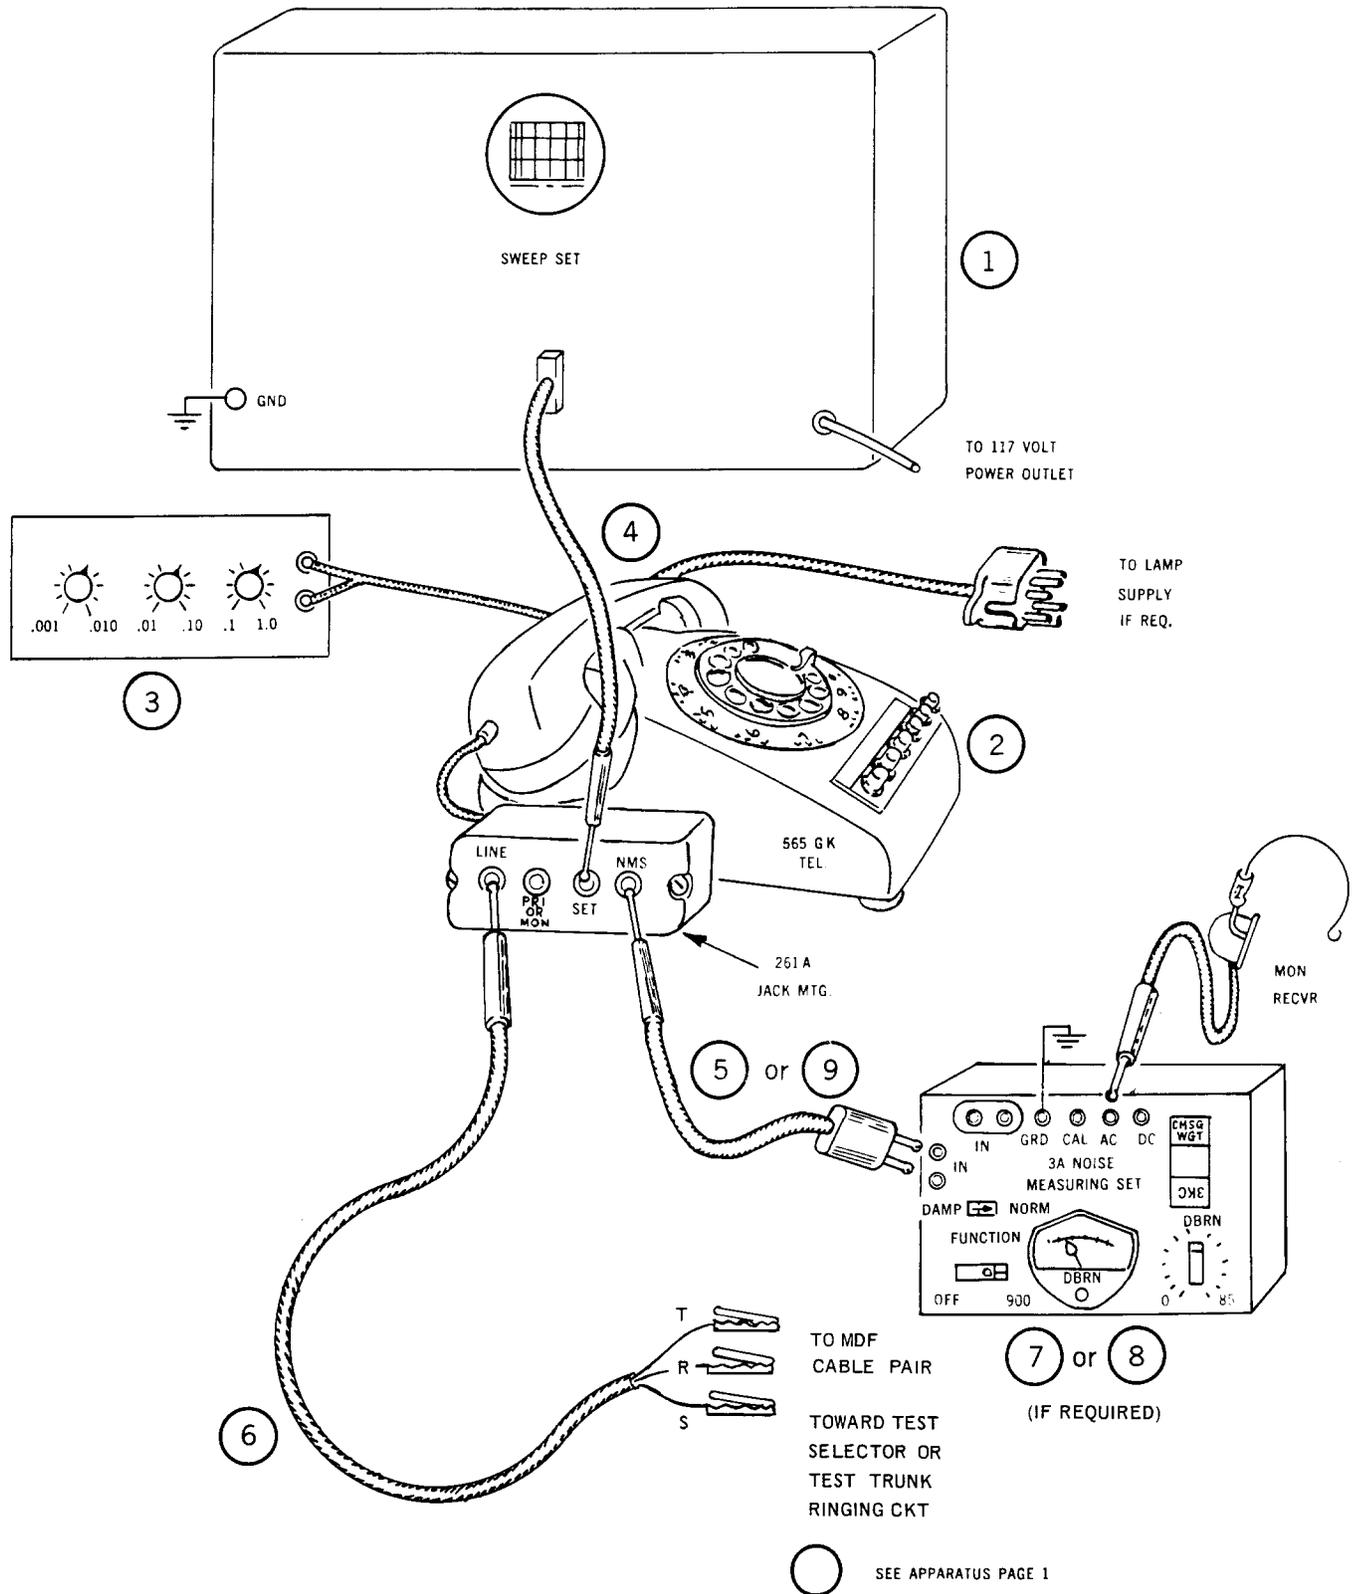

Fig. 1
**2.03** The sweep set requires a 117V AC power outlet and suitable ground, or it may be equipped with a three-wire power cord. The telephone set lamps may be activated by providing a 2012A transformer wired locally as indicated in Fig. 1 of Section 330-450-102.
**3.01** Connect the test apparatus as shown in Fig. 1. The numbers on the figure refer to the items in the apparatus list.
**(A) To Seize a Loop**
**4.01** Remove the handset from hook and dial the telephone number for the desired line. Listen for idle line condition (no call in progress) and lift the exclusion key to hold the connection (requires connection to -48V battery and ground per Fig. 1 for proper sleeve condition).